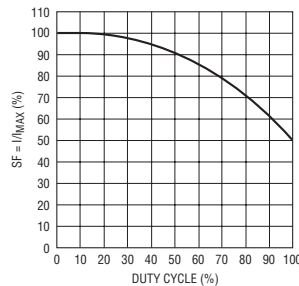

Figure 1. Maximum Peak Current vs Duty Cycle
However, once the controller's duty cycle exceeds 20%, slope compensation begins and effectively reduces the peak sense voltage by a scale factor (SF) given by the curve in Figure 1.
where SF is a scale factor whose value is obtained from the curve in Figure 1.
From Figure 1, SF = 96%.